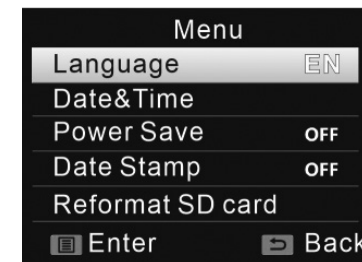

Fig. 7-3
1. Press the Menu key in any mode to enter the main menu, press the Down key to select system settings (see Fig. 7-3).